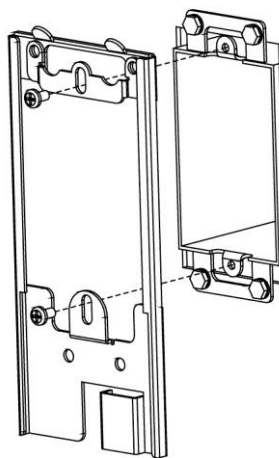

Figure 2: Attach Mounting Bracket to Electrical Box
4. Attach mounting bracket to the electrical box using the two supplied screws (Figure 2).